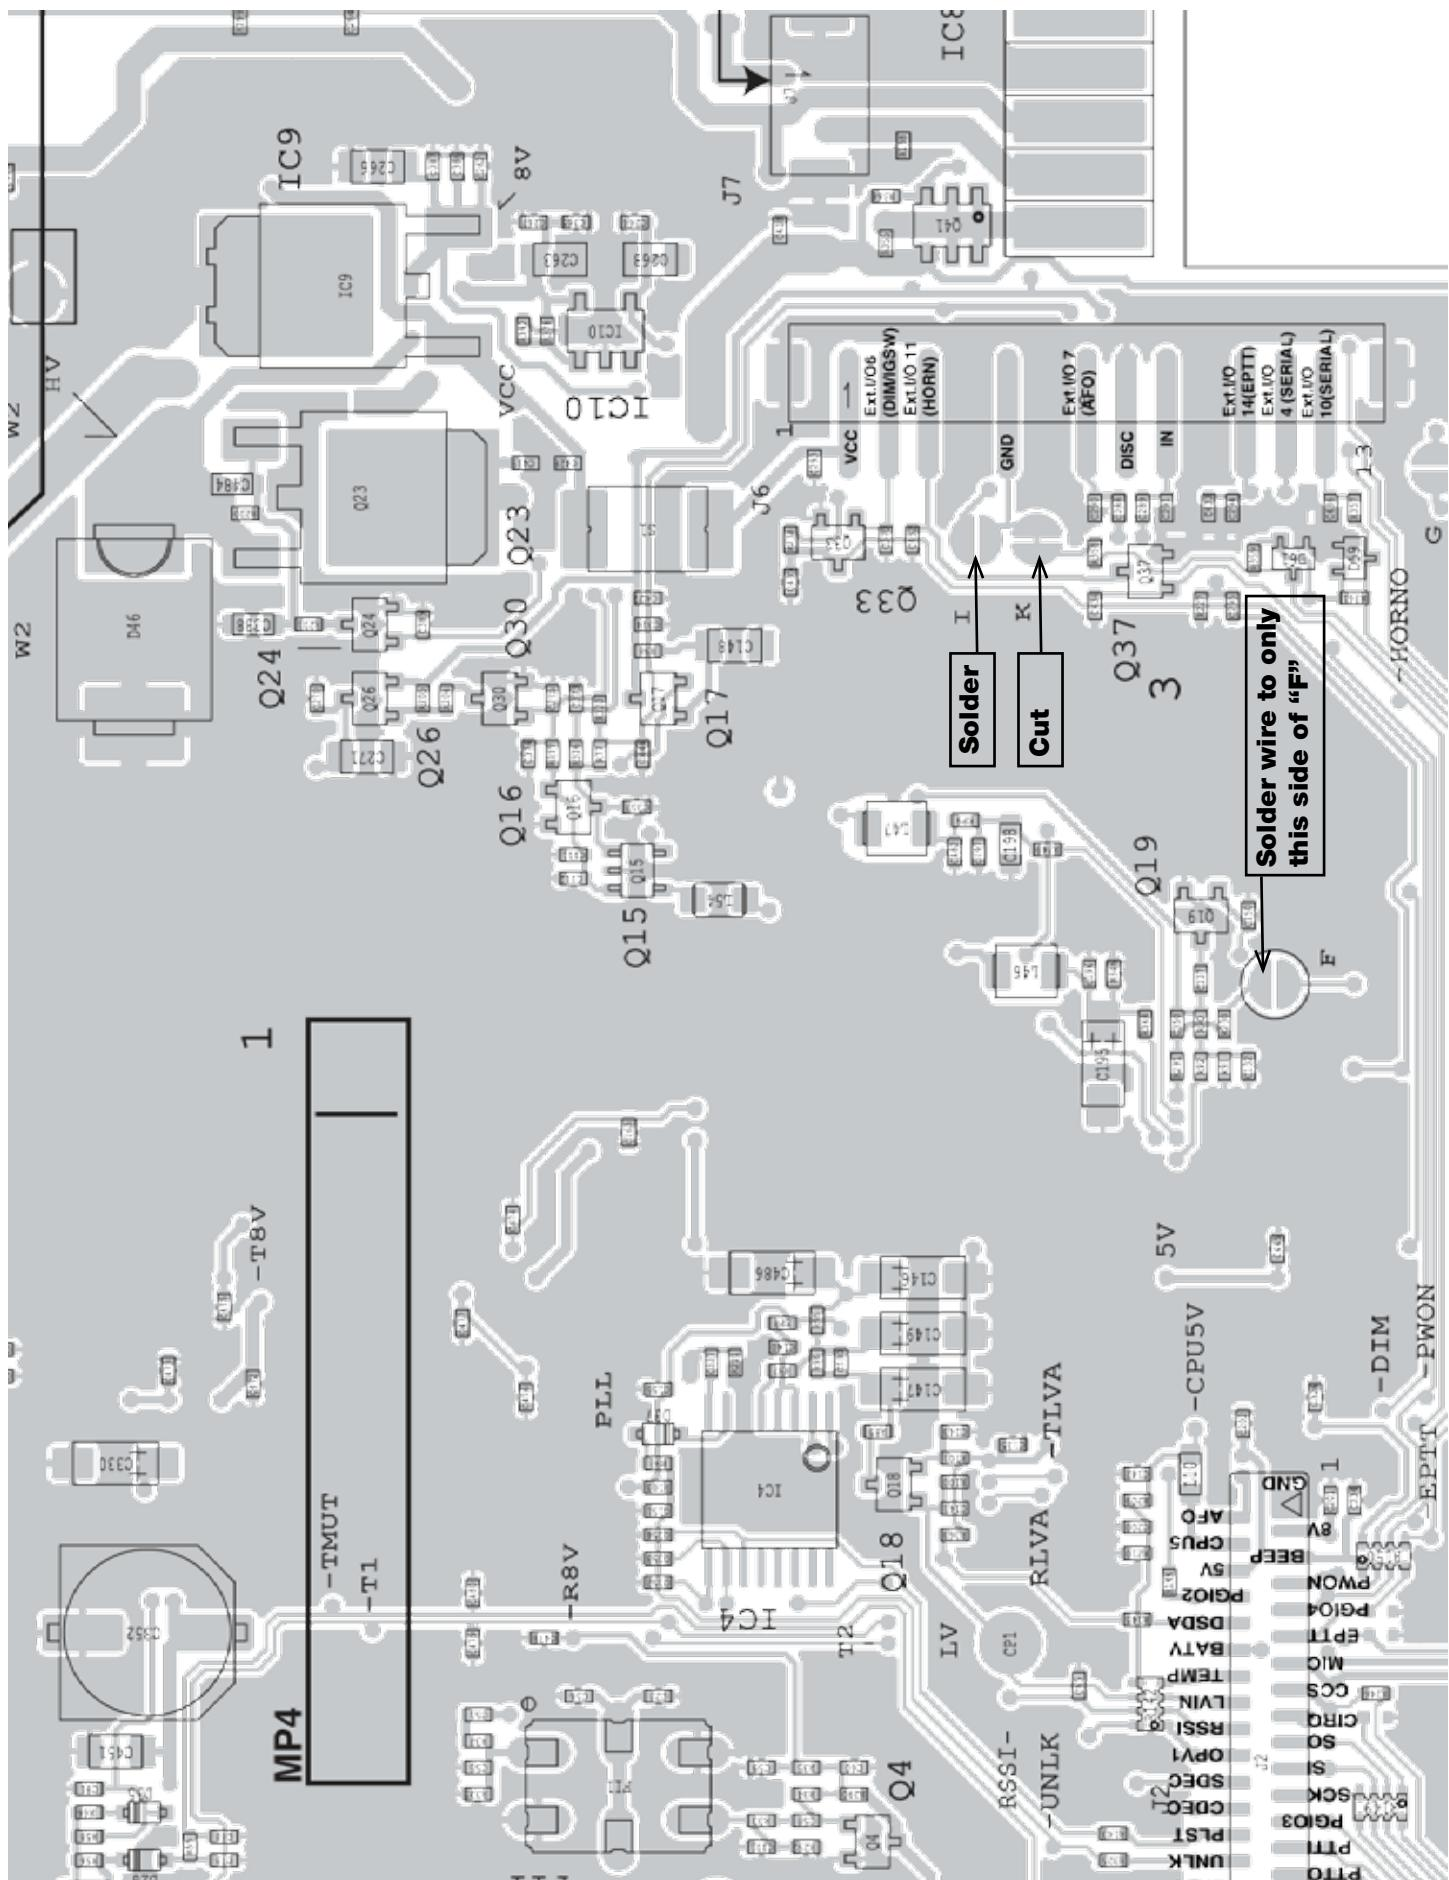

Fig. 1 VHF/UHF
* Inside the radio, Solder jumper D and solder TX Data wire to F. See fig. 1 and fig. 2.